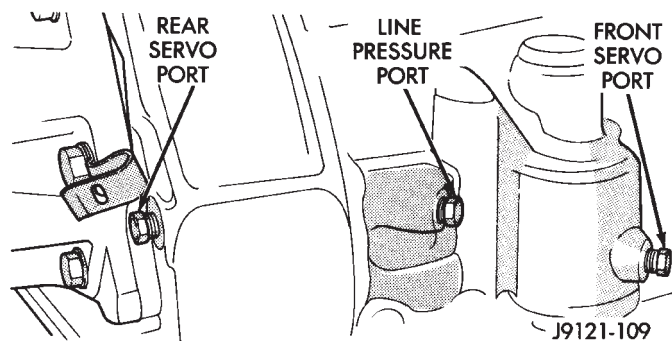

Fig. 4 Front Servo And Line Pressure Test Ports
Line pressure is checked at the accumulator port on the right side of the case (Fig. 4). The front servo release pressure port is at the right side of the case just behind the filler tube opening (Fig. 4).
- (1) Connect test gauge to line pressure port (Fig. 4).
- (2) Start and run engine at 1000 rpm.
- (3) Move valve body selector lever one detent rearward from full forward position (this is 2 range).
- (4) Move transmission throttle lever from full forward to full rearward position and read pressure at both gauges.
- (5) Line pressure should be 54-60 psi (372-414 kPa) with throttle lever forward and gradually increase to 90-96 psi (620-662 kPa) as lever is moved rearward.
- (1) Connect one test gauge to line pressure port and other gauge to front servo pressure port (Fig. 4). Either gauge can be used at either port.
- (2) Start and run engine at 1600 rpm.
- (3) Move selector lever two detents rearward from full forward position. This is D range.
- (4) Read pressures on both gauges as transmission throttle lever is moved from full forward to full rearward position.